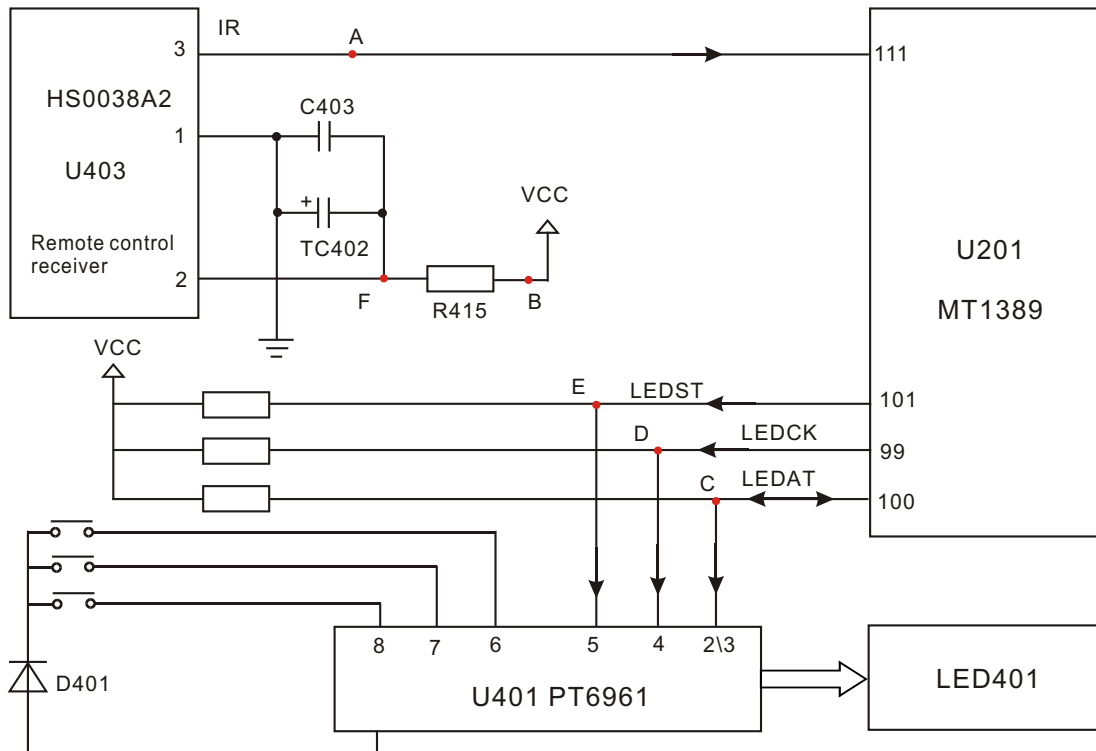

Figure 3.2.15.1 Panel control circuit diagram
1. The circuit functional block diagram is shown as the following figure 3.2.15.1: